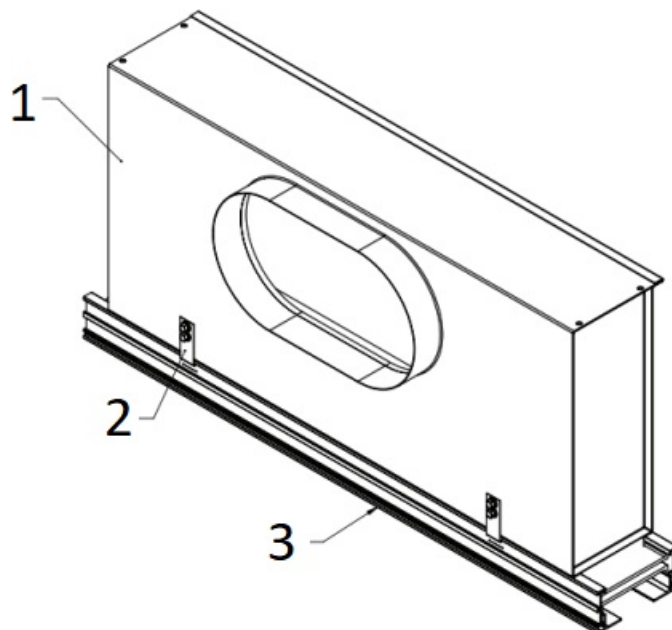

Figure 6. Attachment Plenum to Diffuser
- If plenums were secured above ceiling using hanger wire earlier, pull it towards and attach it to the DFL by snapping it onto the neck of the diffuser using the provided plenum clips as shown in Figure 6.